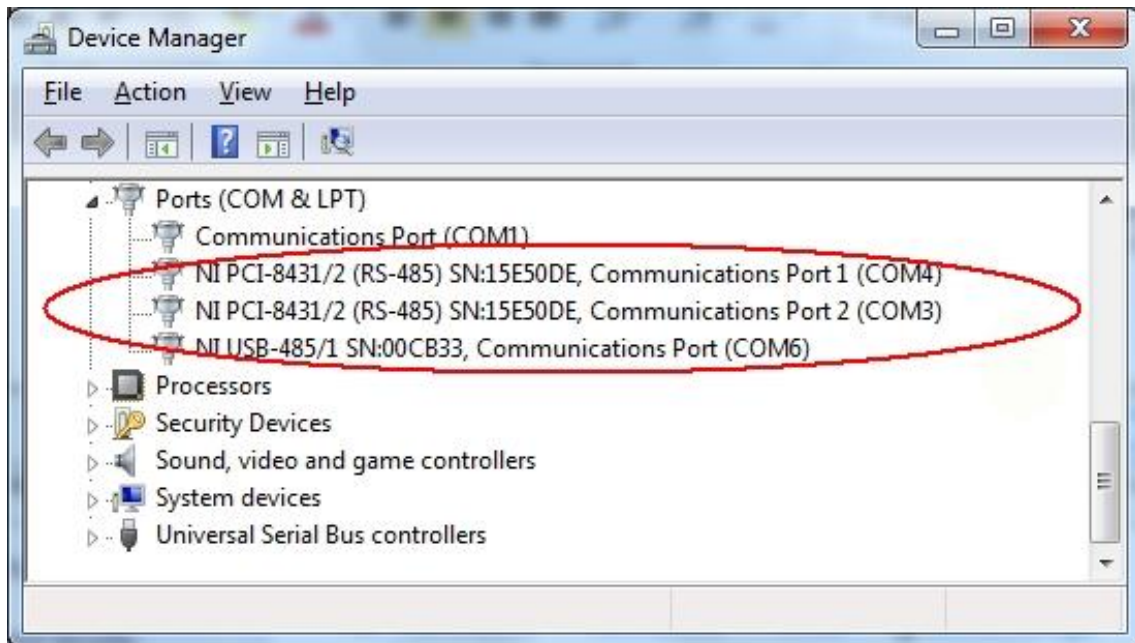

Figure 12: COM port assignments for PCI card and USB cable in Windows 7
4. Verify that the NI serial driver installation has completed successfully in the Device Manager. See *Control Panel -> Hardware and Sound*, or similar path, to locate this. An example for Device Manager in Windows 7 is shown in Figure 12